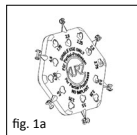

fig. 1a
■ **Fig. 1a, 1b/2** The sizer disk for partial prostheses has six individual satellite-shaped sizers of different lengths (2.0-4.5 mm) (Fig. 1a, 1b). The relevant length is marked on the back of each sizer (Fig. 2). The cutouts and holes are designed to reduce the weight and to provide a clearer view when conducting measurements in the middle ear.